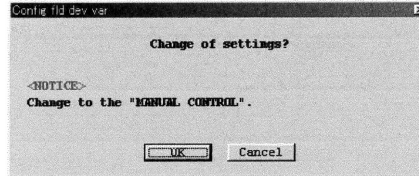

Fig.26
- ⑤ At "Temp", you can set up temperature units and temperature damping.
- ⑥ You are to set up individual items : for items with an arrow mark at right, click on the arrow mark at right, select the item from the drop-down list ; for other items, Key in appropriate values directly.
⑦ After filling in all the fields required, click on "OK" button. A message box as shown in Fig. 26 then appears.